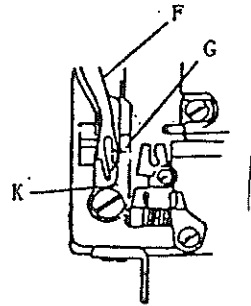

Fig. 22
- b) Turn the machine pulley to see if Spreader F collides with Point G of Needle Guard K (Fig. 22). If it does move the eccentric bushing left a little.